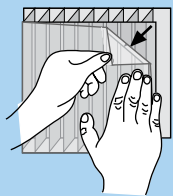

Figure 16b
3. Sealing the Sheets is done by aluminum impermeable, or ventilated filter sticky tapes, as described in the paragraph “Pre-preparation of the sheet” above. Such specialty tapes can be obtained from the leading tape manufacturers, or through Palram dealers (See figures 16b, 16c).